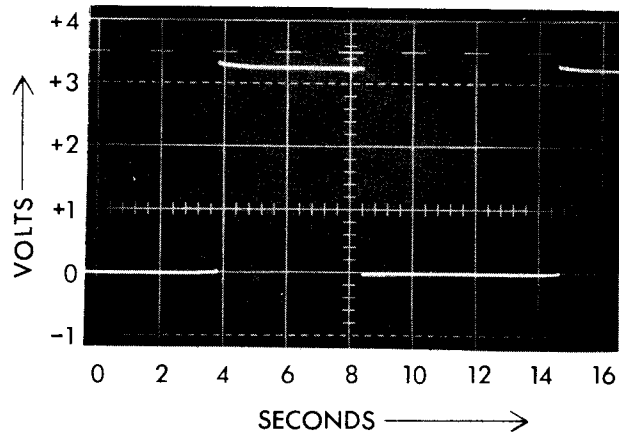

FIGURE 2
- a. Should observe a rectangular wave with an amplitude of 0.0 to 3.2 volts $\pm 10\%$ and a period of approximately 9 Sec. See Figure 2.